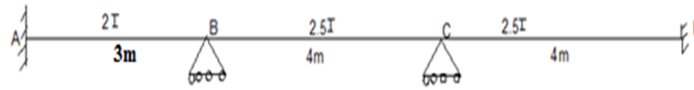

Figure 10
7. (a) Analyse the continuous beam shown in Figure 10, if the support B sinks by 10mm. Use Displacement method. Assume $EI=6000\text{kN}\cdot\text{m}^2$ [7M]